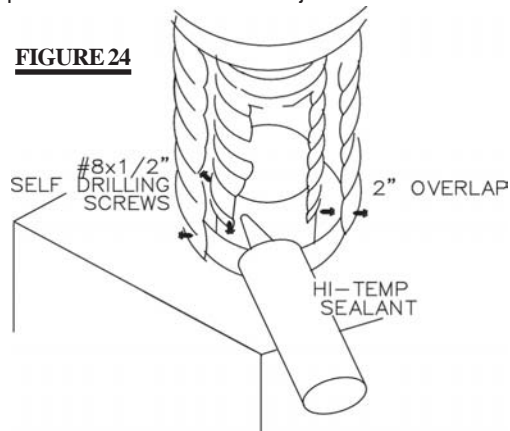

FIGURE 24
1. Install the 4 inch diameter aluminium flexible liner to the fireplace. Secure with 3 screws and flat washers. Seal the joint and screw holes using the high temperature sealant provided. **FIGURE 24**.